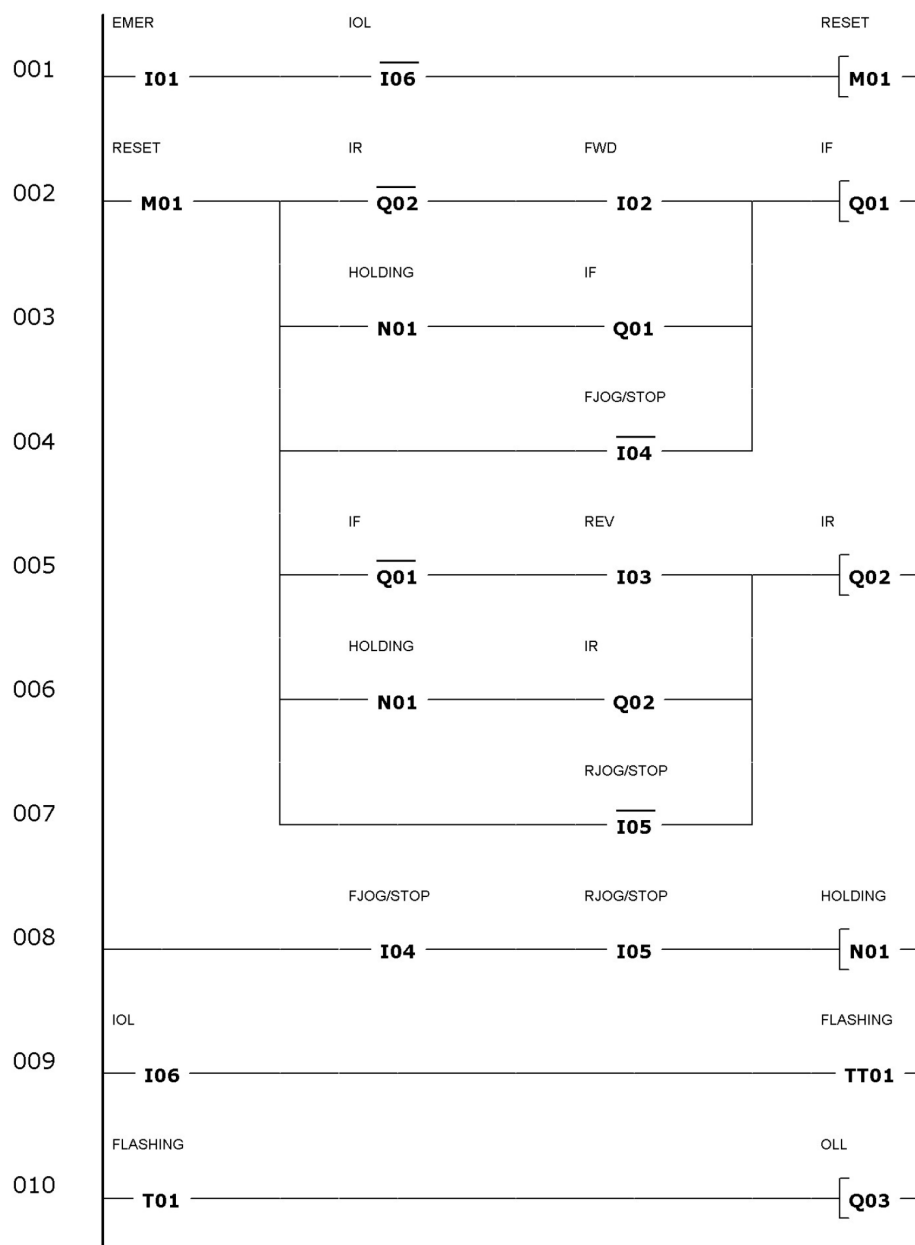

Figure 2-17. Reversing motor starter with jogging and overload indicator and reset connection diagrams.
To increase the system safety, modify the program according to Figure 2-17. This modification prevents the motor from automatically restarting.
5. In Figure 2-17, which conditions cause the program to reset?
9. How is the tripped overload status used in the Figure 2-17 PLC program?